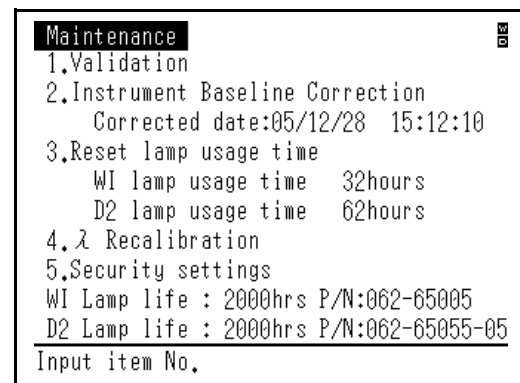

Fig. 3.4
- 2 Press the **3** [3. Reset lamp usage time] key in the Maintenance screen (Fig. 3.4).